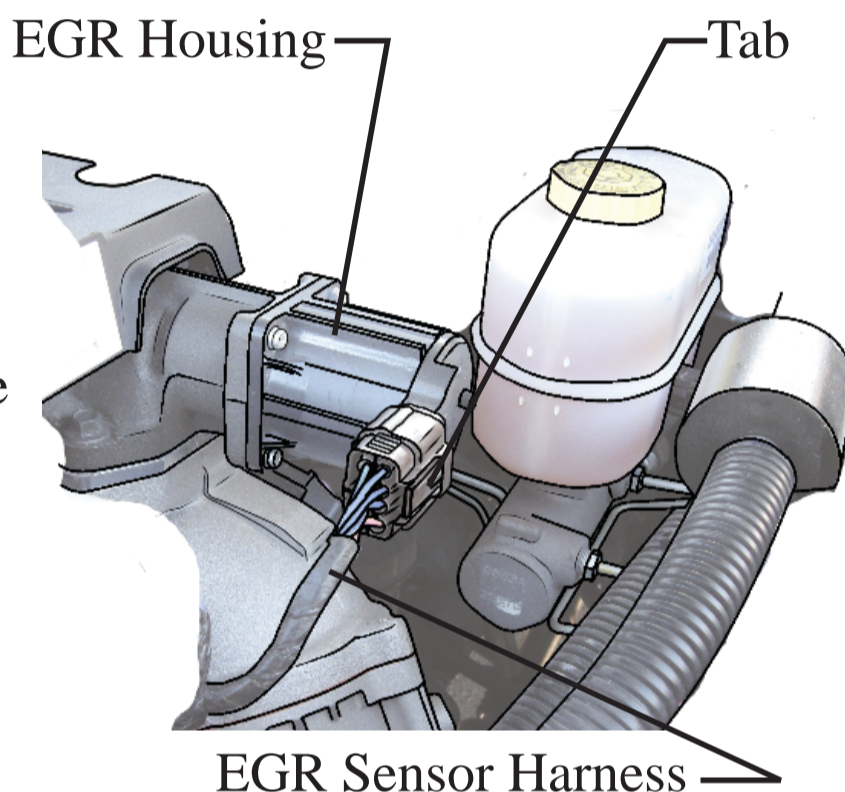

Figure 3 - Remove Harness
(See Figure 3)
2. Remove the EGR Sensor Harness by pushing in the connector's locking tab, then pulling the connector away from the EGR housing. (See Figure 3)